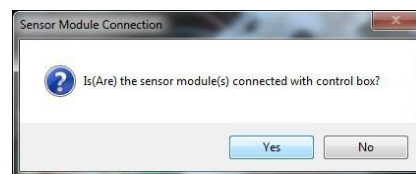

Figure 23. Select RS485 from the drop down menu
2. Next, click “Yes” button as in Figure 23.